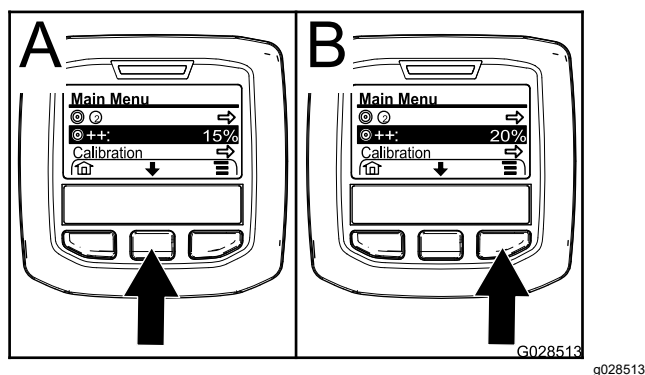

Figure 67
- If needed, press the center selection button to highlight the application rate boost (Figure 67).
Note: The icon for the application rate boost look 2 (+) signs to the right of a bull's-eye target (Figure 67).
- Press the right selection button (Figure 67) to increase the boost percentage in 5% increments (20% maximum).